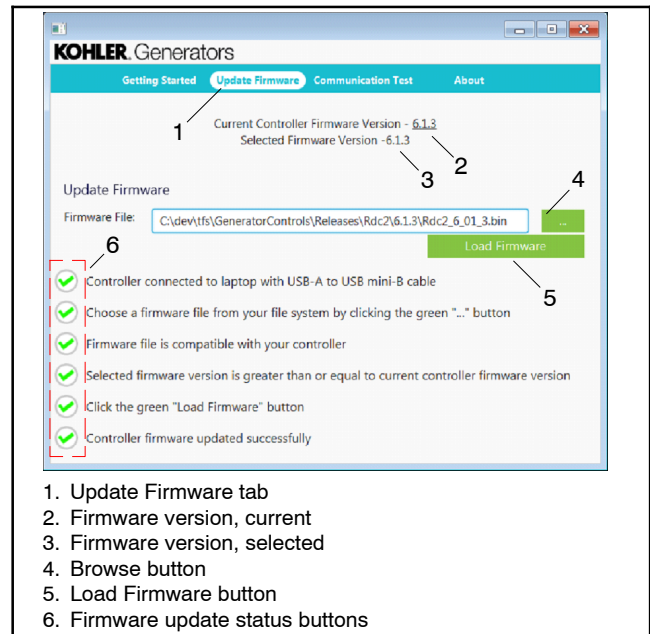

Figure 4 Kohler USB Utility Screen
2. Select the **Update Firmware** tab at the top of the screen. See Figure 4.